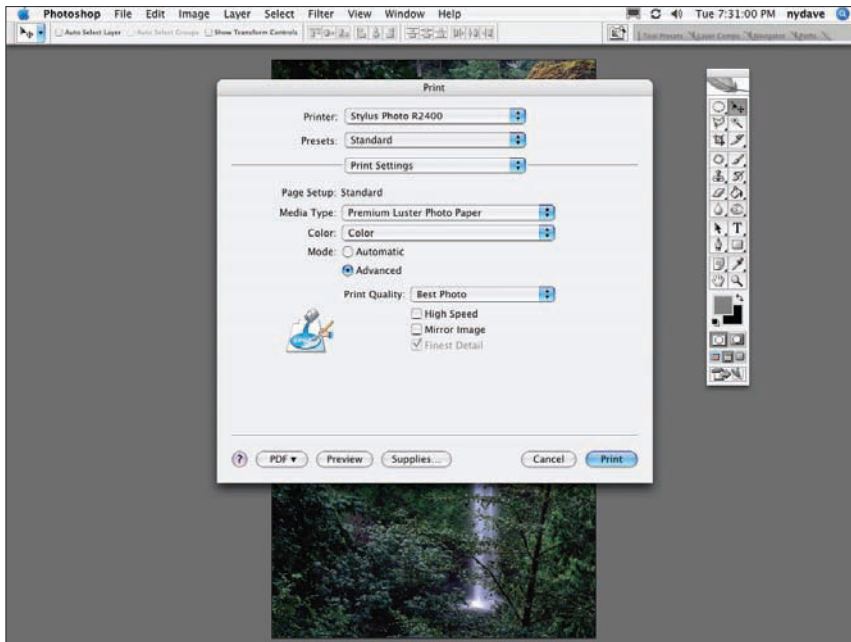

Figure 6.8
7. If you click on the Presets drop-down menu, you'll see the a list of driver choices. Mouse down to Print Settings, and the dialog box will change to what is shown in Figure 6.8.